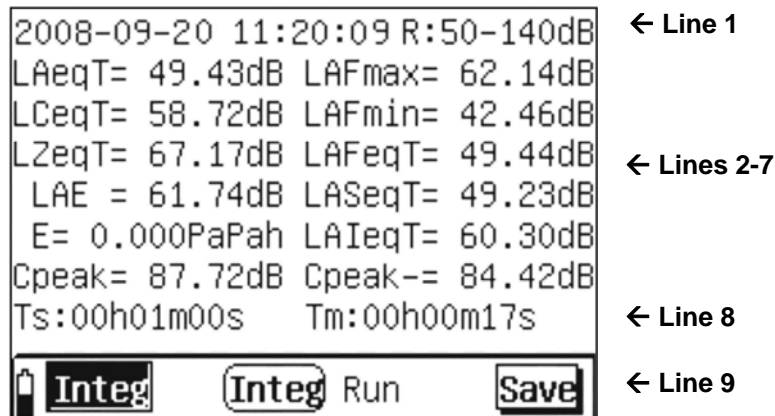

Fig. 21: Screen of integrated values of Integral analysis
5. Press the “” key to start the integration measurement. The instrument automatically shows the screen with the integrated values (see Fig. 21) and the “Run” message appears on the display